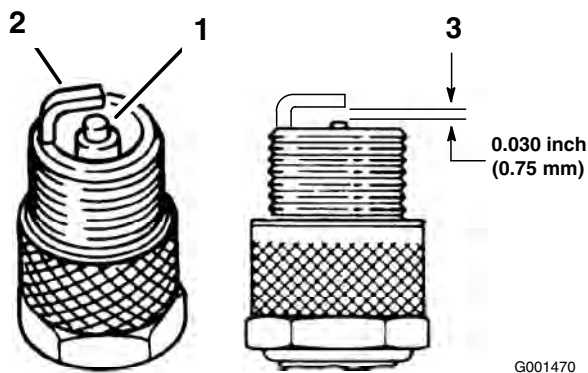

Figure 29
1. Look at the center of the spark plugs (Figure 29). If you see light brown or gray on the insulator, the engine is operating properly. A black coating on the insulator usually means that the air cleaner is dirty.
3. Check the gap between the center and side electrodes (Figure 29). Bend the side electrode (Figure 29) if the gap is not correct.
3. Connect the wires to the spark plugs (Figure 29).